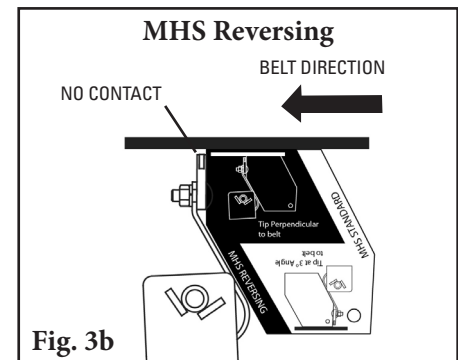

Fig. 3b
**For MHS Reversing:** Rotate the pole until the tips are perpendicular to the belt, using the black “MHS Reversing” side of the tip setup gauge provided (Fig. 3b).